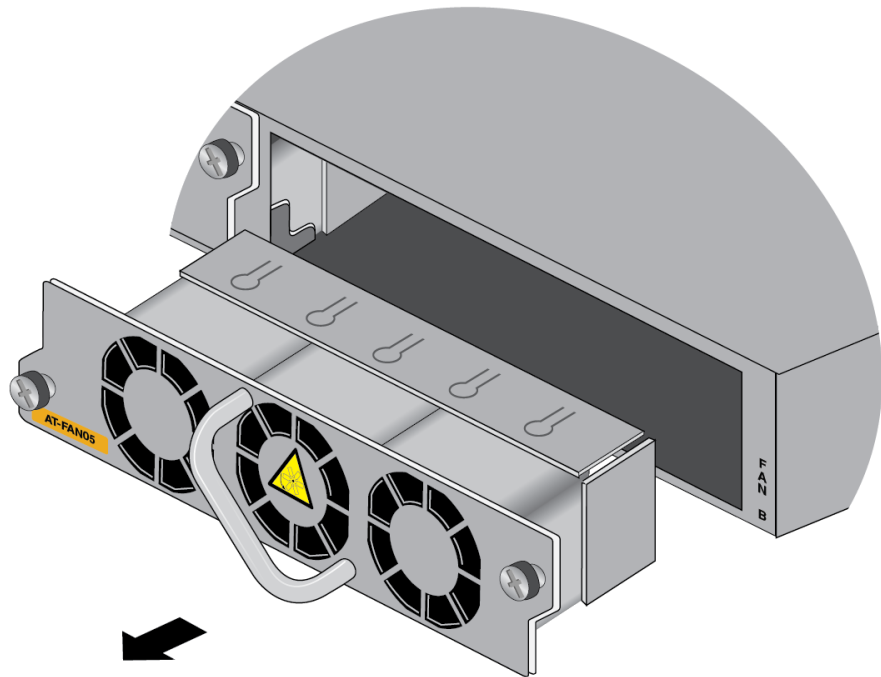

Figure 155. Sliding the Fan Module from the Switch
3. Slide the fan module out of the switch. Refer to Figure 155.